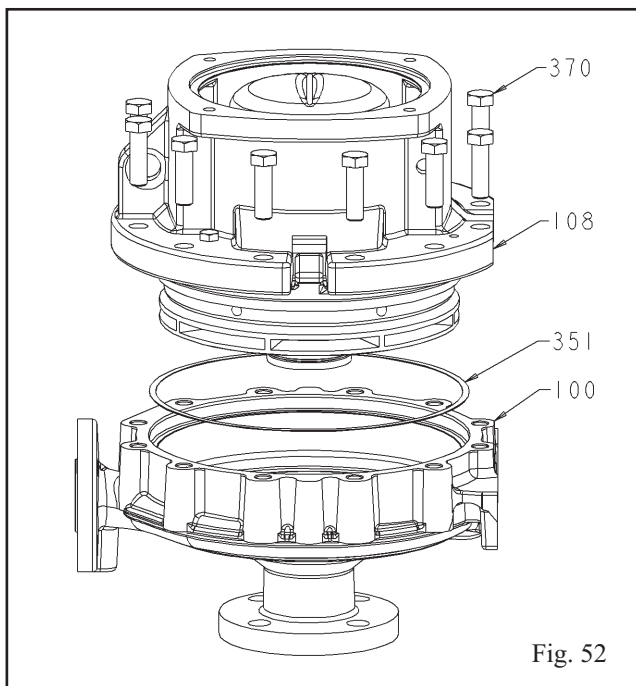

Fig. 52
- Secure the casing (100) to the workbench with the suction flange facing downwards (Fig. 52).
25. Insert the casing gasket (351) into the casing (Fig. 52).
26. Insert the pre-assembled unit described above into the casing so that the crane hook of the adapter (108) faces the center of the discharge nozzle (Fig. 52).
27. Secure the adapter to the casing using hex cap screws (370) to the recommend torque rating specified in Table 9 (Fig. 52).